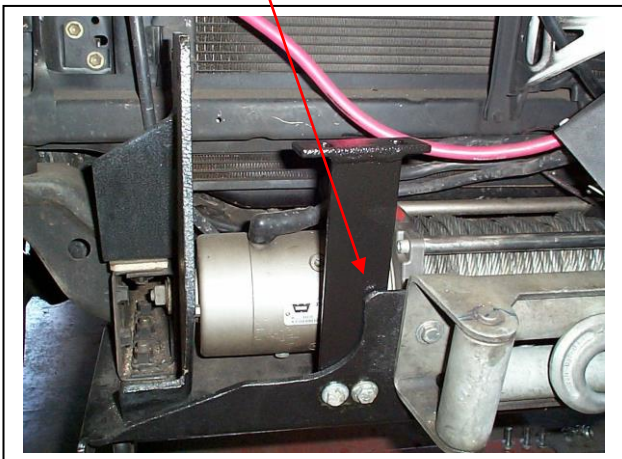

Figure 11 – 98-9/02 model shown
19. Position control bracket on **outside** (10/02- models) **inside** (98-9/02 models) of winch mounting bracket. Use $\frac{3}{8}$ x $1\frac{1}{4}$ bolts/nuts and washers (supplied). **FINGER TIGHTEN ONLY. See figure 11 & 11a.**